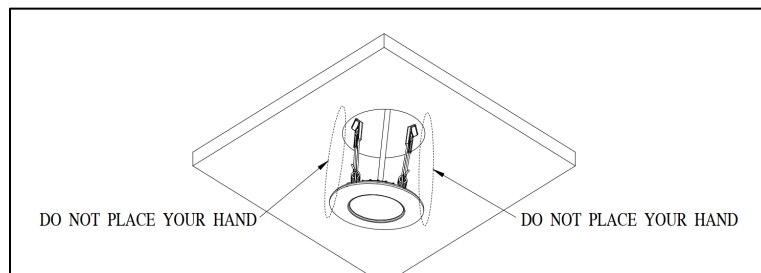

Figure 8
**WARNING: DO NOT PLACE YOUR HAND UNDERNEATH SPRING CLIP DURING REMOVAL PROCESS. SNAPPING OF THE CLIPS CAN CAUSE INJURIES TO THE HAND (Figure 8).**